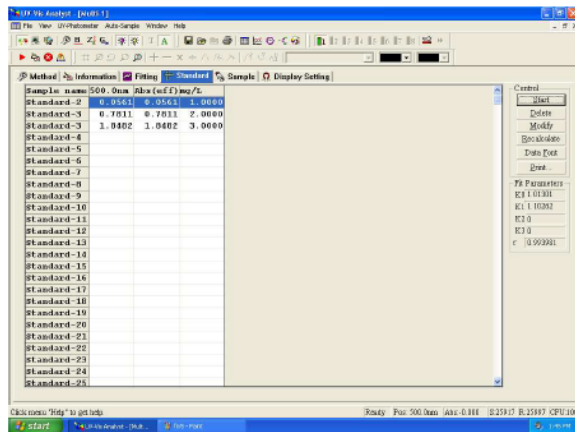

Fig. 4-6
17. Repeat steps 4-7 to measure all the prepared standards (Fig 4-6).